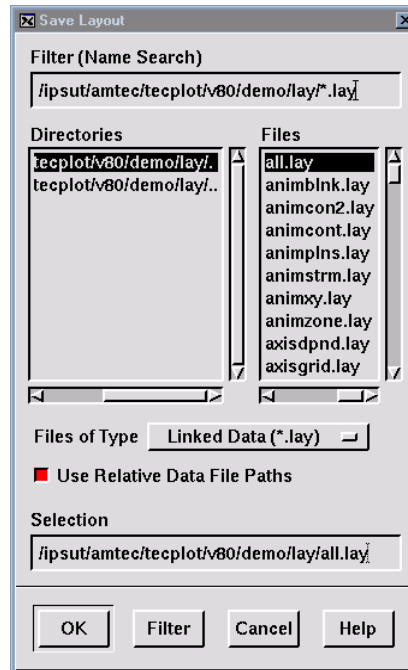

Figure 6-11. The Save Layout dialog in Motif, showing the Linked Data (*.lay) option.
2. Choose “Linked Data (*.lay)” using the File of type drop-down, as shown in Figure 6-11.